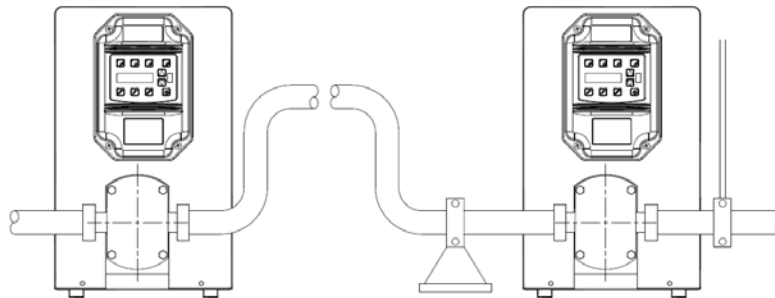

Figure 2.3.1
Incorrect installation, operation or maintenance of the equipment can cause serious personal injury and/or damage to the equipment and will invalidate the warranty. Make sure the pipes are well supported as the pump is not meant to serve this purpose. Keep in mind that pipes filled with liquid are very heavy. See figure 2.3.1 for recommended pipe layout.
Never operate the pump if the front cover and/or suction/discharge pipe-work are not in place. Make sure they are properly installed, see figure 2.3.1. Likewise, never operate the pump if other protection such as coupling and shaft guards are missing or incorrectly installed.
- Make sure the pipes are well supported. Do not use the pump to support the piping. See figure 2.3.1